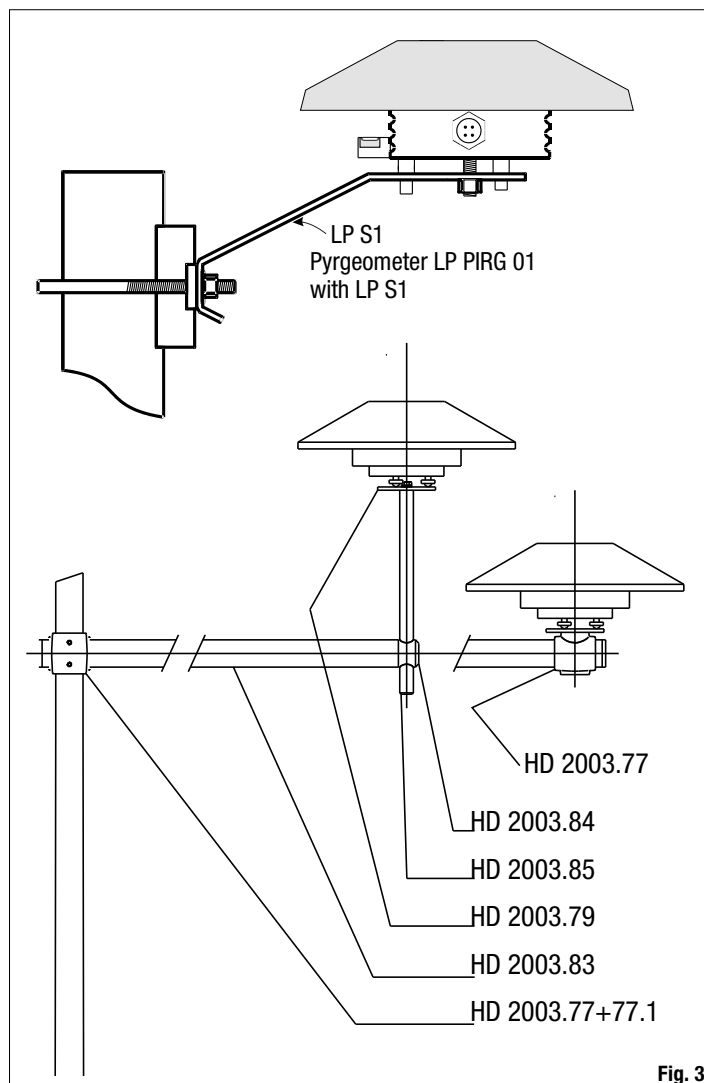

Fig. 3
- The support LP S1 (figure 3), supplied upon request as an accessory, allows an easy mounting of the pyrgometer support pole. The maximum diameter of the pole to which the bracket can be secured is 50 mm. To secure the pyrgometer to the bracket, remove the screen by unscrewing the three screws, fix the pyrgometer; once the installation is complete, fix the white screen back.